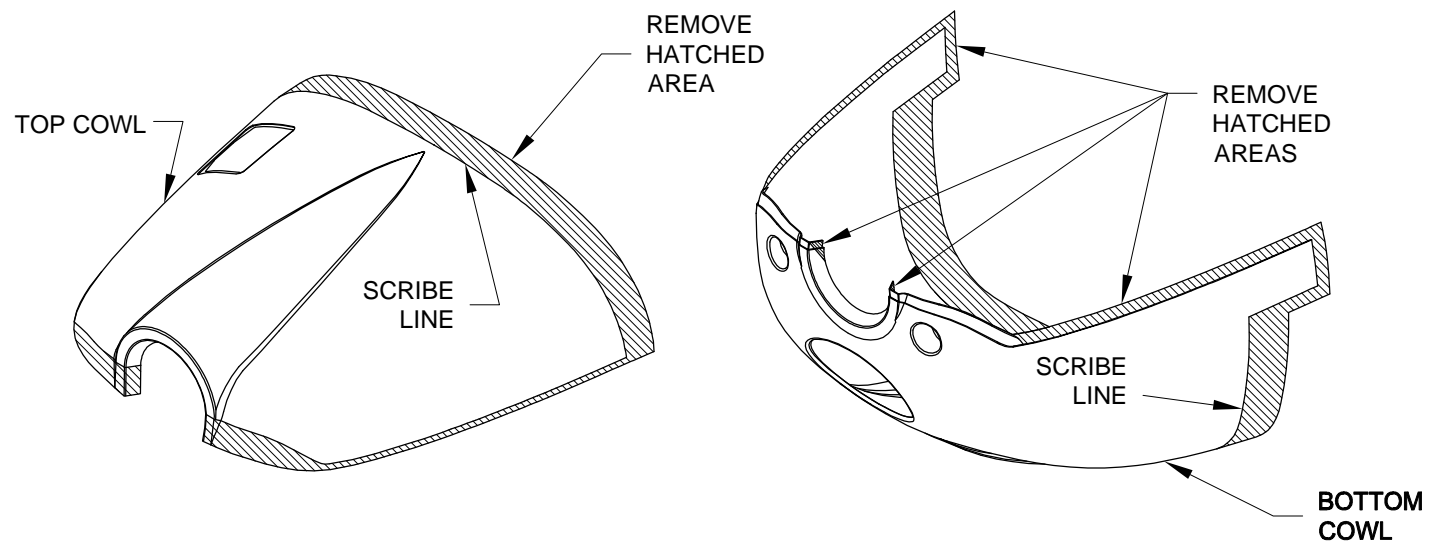

FIGURE 1: TRIMMING THE TOP AND BOTTOM COWL
Step 1: Trim the top cowl and bottom cowl edges to within 1/8 inch of the scribe lines. Sand to remove the remaining material up to the scribe line as shown in Figure 1. A block with 80 grit paper works well for this.